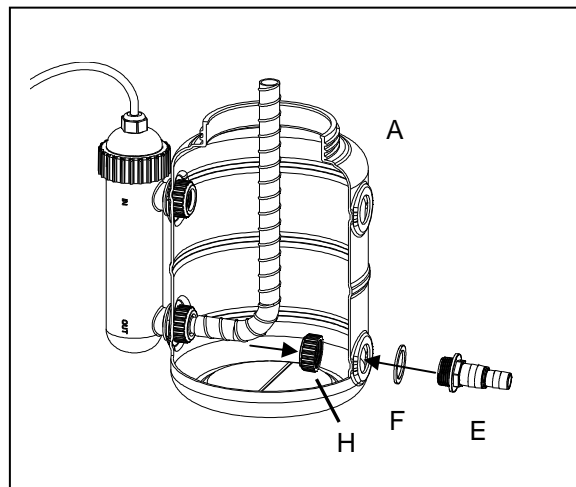

Fig. 1
1. Assemble the locking ring, adapter and gasket. Fig. 1